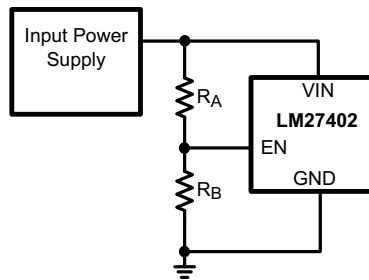
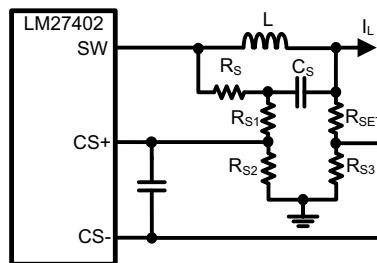

Figure 28. Enable Sequencing
Figure 34. Common Mode Voltage Resistor Divider Network
If enable (EN) is not controlled directly, the LM27402 can be pre-programmed to turn on at an input voltage higher than the UVLO voltage. This is done with an external resistor divider from V_{IN} to EN and EN to GND as shown in Figure 28.
The internal current source $I_{\text{CS-}}$ is powered from the input voltage rail, V_{IN} . The minimum voltage required to drive that current source is 1 V from V_{IN} to V_{OUT} . If a low-dropout condition occurs where $V_{\text{IN}} - V_{\text{OUT}} < 1 \text{ V}$, the LM27402 may prematurely initiate hiccup mode. There are multiple options to avoid this situation. The first option is to enable the LM27402 after the input voltage has risen 1 V above the nominal output voltage as seen in Figure 28. The second option is to lower the comparator common-mode voltage shown in Figure 34 such that the $I_{\text{CS-}}$ current source has enough headroom voltage.